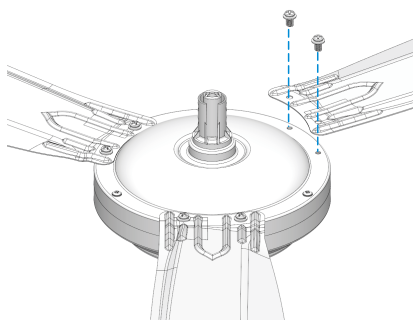

Fig. 1.2
- 1.2 Align the two holes on the blade with the corresponding screw holes on the motor head, and secure the blades using the blade screws, as illustrated in Fig. 1.2.